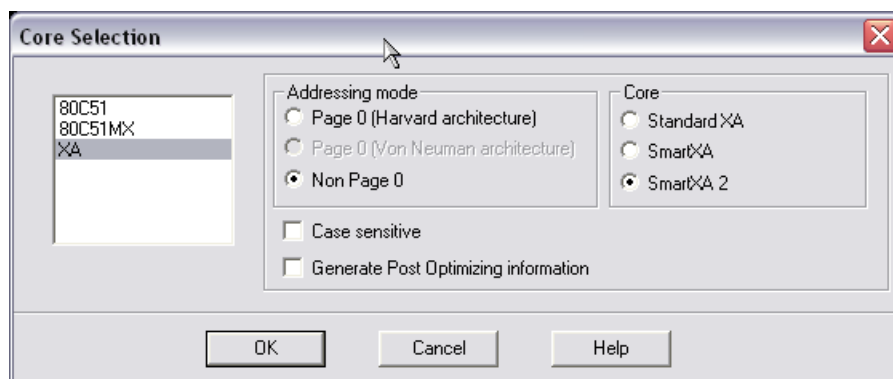

Figure 5-15 Core Selection
2. In the dialog box of “Core Selection” that follows, choose “Addressing mode” as “Non Page 0” and “Core” as “SmartXA2” as shown in Figure 5-15: